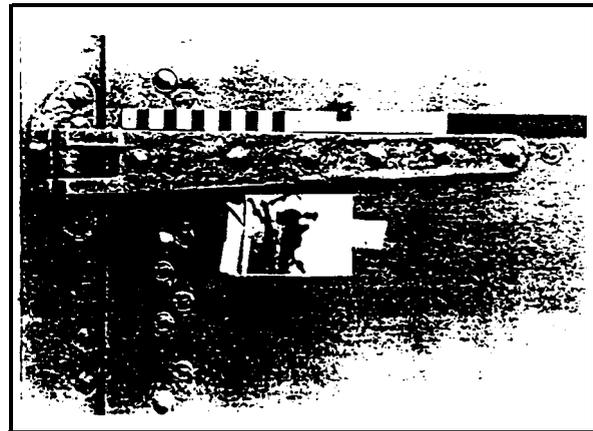

Fig. 4.48
1) From a bar scale included in the image: measure the bar scale in the image with an architect's or engineer's scale, and calculate the image scale. The image scale in Fig. 4.48 is $0.915" = 1'-0"$ (or 1" in the image equals $1 \frac{7}{64}"$ on the original object). From here, you obtain other dimensions by simple proportions. You also may use a pair of dividers to pick the dimension desired from the image and compare it to the scale included in the image (see Fig. 4.48). *This works with confidence only if you obtain measurements within the same plane as the one in which the scale appears.*